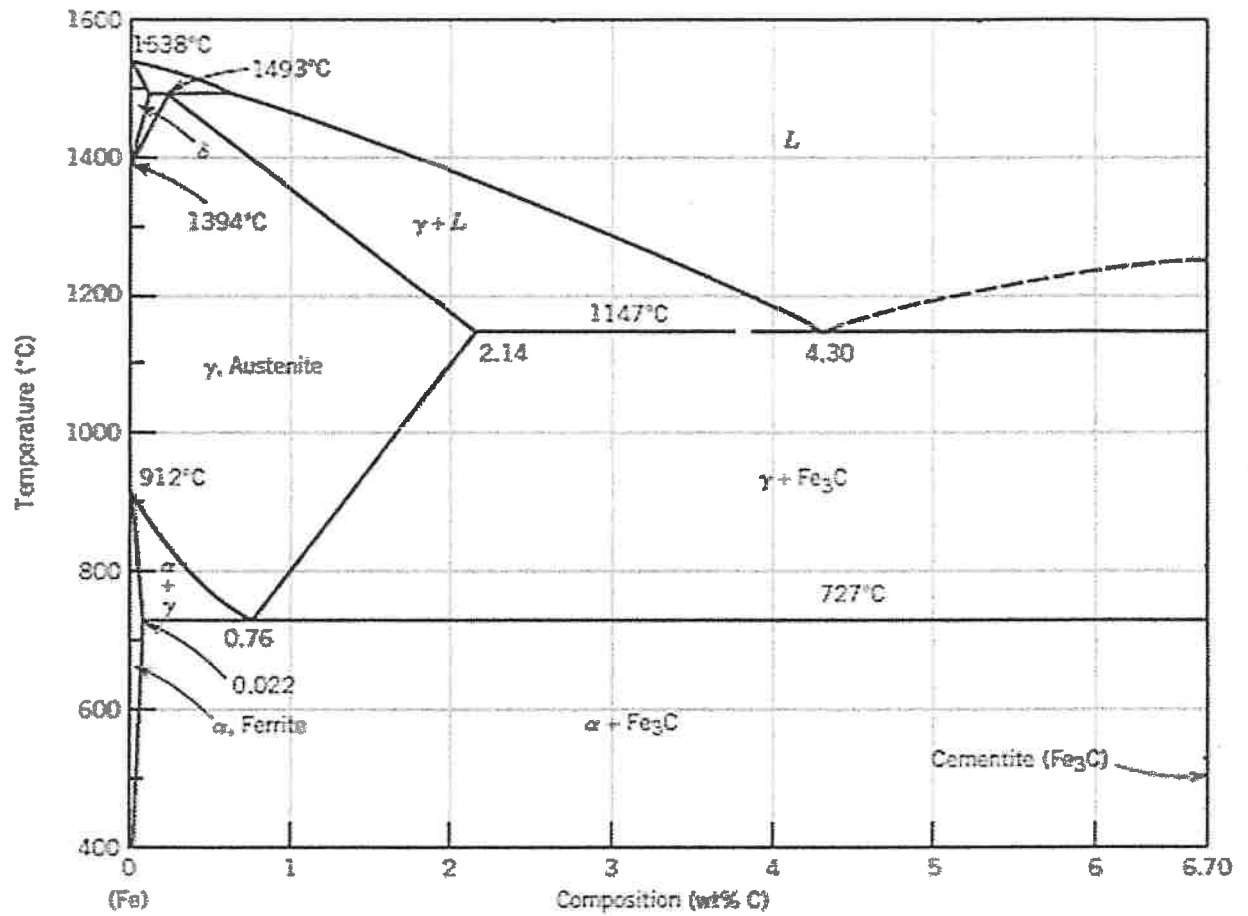

Figure Q3
- a) Referring to the standard $Fe - Fe_3C$ equilibrium diagram (**Figure Q3**), answer the following:
- i. Determine the maximum solubility of carbon (C) in ferrite and austenite phases.
- b) Calculate the following for the steel alloy containing 98.75 wt% of Fe and 1.25 wt% of C at a temperature **just below the eutectoid** (You may use the data provided in **Figure Q3**).